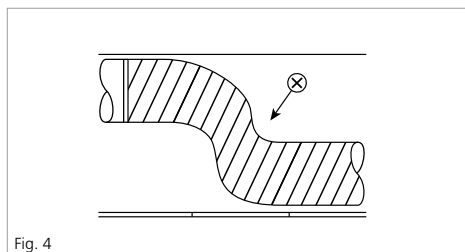

Fig. 4
- Avoid using more ducting than is necessary. Using more ducting than is required means that the internal spiral will not be stretched enough and result in uneven airflow patterns causing increased resistance and sound levels. See Figure 4.